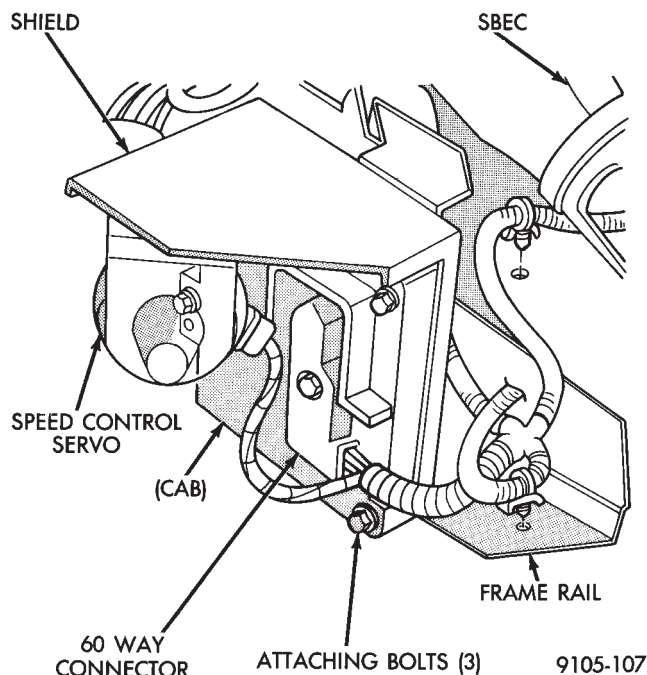

Fig. 1 Location Controller Anti-Lock Brake (CAB)
(1) Install the brake fluid spray shield onto the hydraulic accumulator (Fig. 1).
(2) Install the bladder accumulator onto the hy-
CONTROLLER ANTI-LOCK BRAKE (FIG. 1)
(1) Turn vehicle ignition off.
(2) Remove speed control servo from vehicle. (See Section 8 in the Service Manual for speed control servo, remove/install procedure.)
(3) Disconnect the wiring harness 60 way connector (Fig. 1) from the Controller Anti-Lock Brake Module (CAB). **VERIFY THAT THE VEHICLE IGNITION IS OFF, BEFORE REMOVING THE 60 WAY CONNECTOR.**
(4) Remove the 3 (CAB) module to fender shield mounting bolts (Fig. 1).
(5) Remove the (CAB) module from the vehicle.